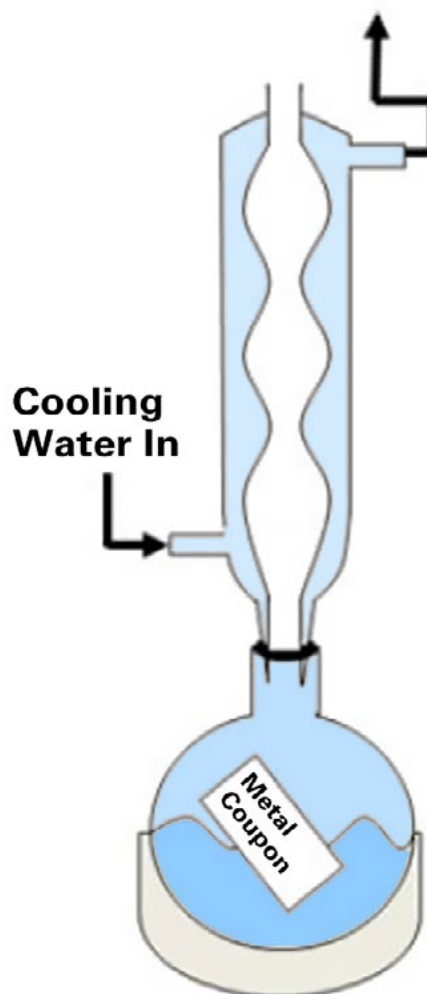

Figure 2: Reflux test study set-up.
The chemical stability of 1233zd(E) with and without the presence of water, with metals and fluxes, is another important factor to be considered in the identification of a next-generation solvent. To test this we used a set-up shown in Figure 2. Chilled water-cooled condensers were connected to small flasks and the solvents were boiled in the flasks and refluxed back to the flask. This test continued for two weeks.